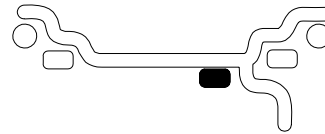

Figure 16
**B. STATIC** (single plane - Figure 16). Suggested for narrow rims (3” or less). Use a single corrective weight placed in the center of rim as illustrated in Figure 16.